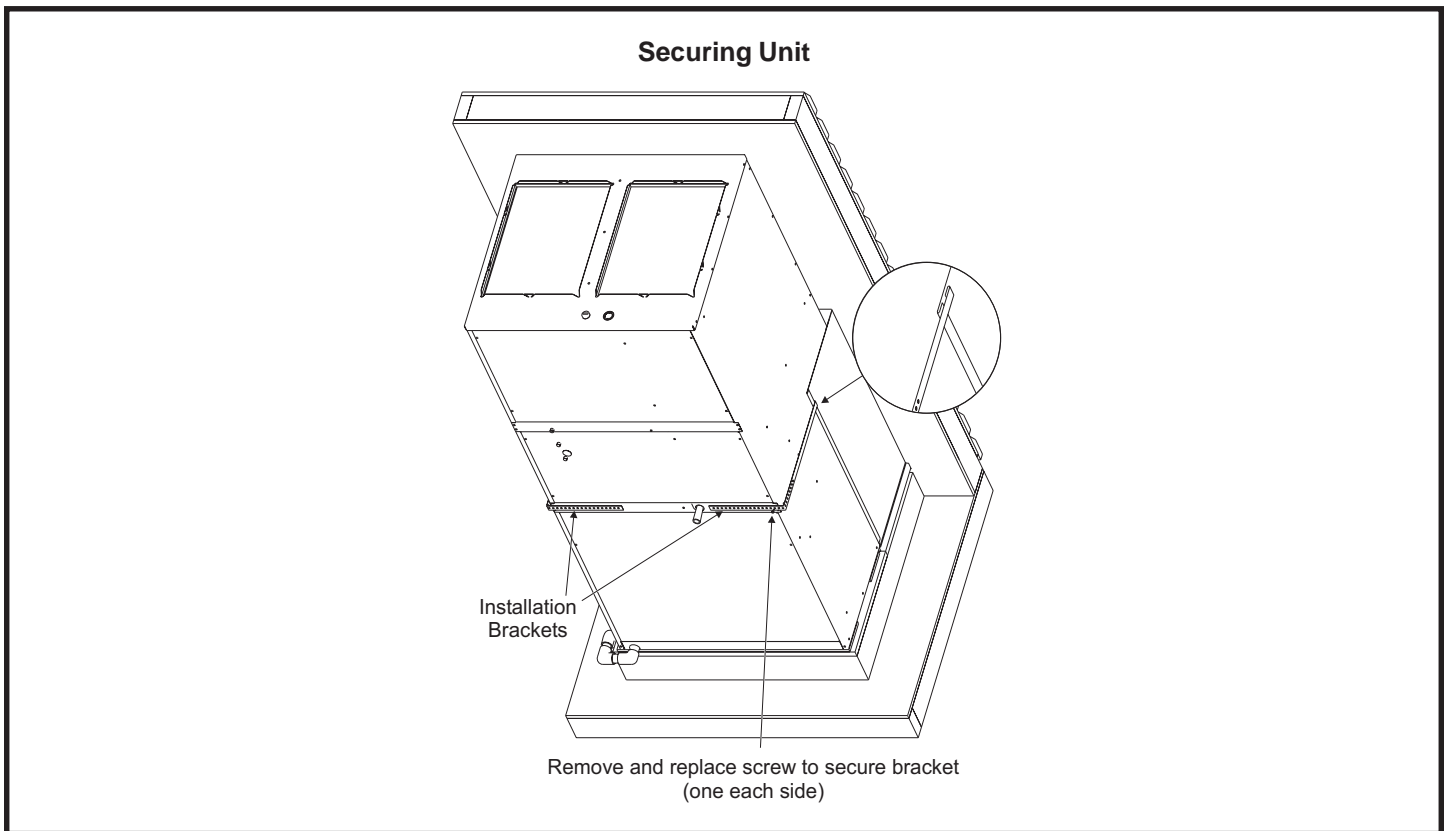

Figure 6
- Use the two installation brackets to secure the unit to the wall sleeve (see Figure 6). The units are shipped with the brackets placed loose on the unit top panel, beneath packaging. Hook each bracket into the front edge of the wall sleeve side. Position the bracket so it can be bent around the front corner of the unit. Remove one of the two screws in that position on the unit. Line up one of the holes in the installation bracket with the screw hole and attach the bracket to the unit with that screw. Make sure to fasten tight enough that the seal is maintained. Trim off excess bracket if applicable.